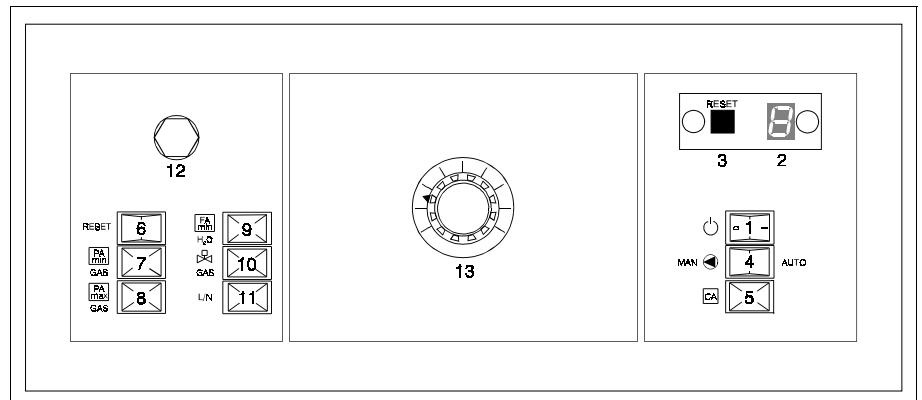
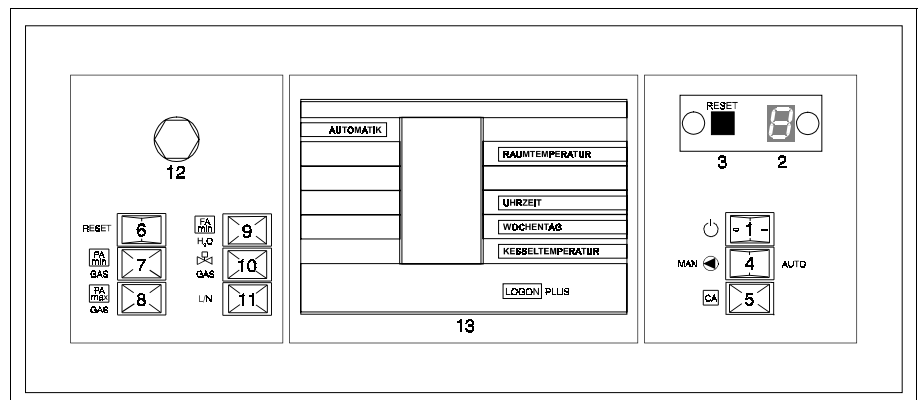

Fig. 19 Control panel with thermostatic regulation (version T)
Fig. 20 Control panel with weather compensated regulation (version W)
- 13 Control thermostat (fig. 19) or Logon weather compensation regulator (fig. 20).